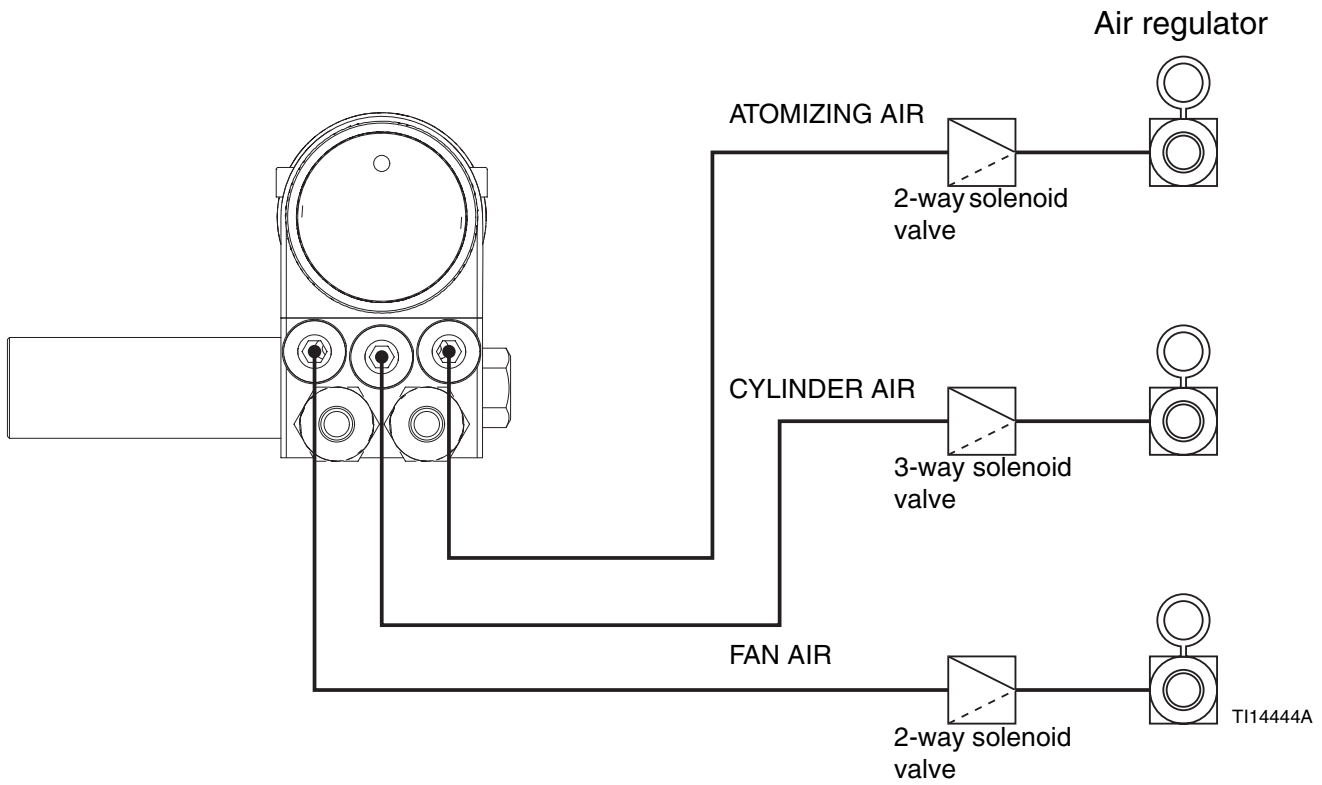
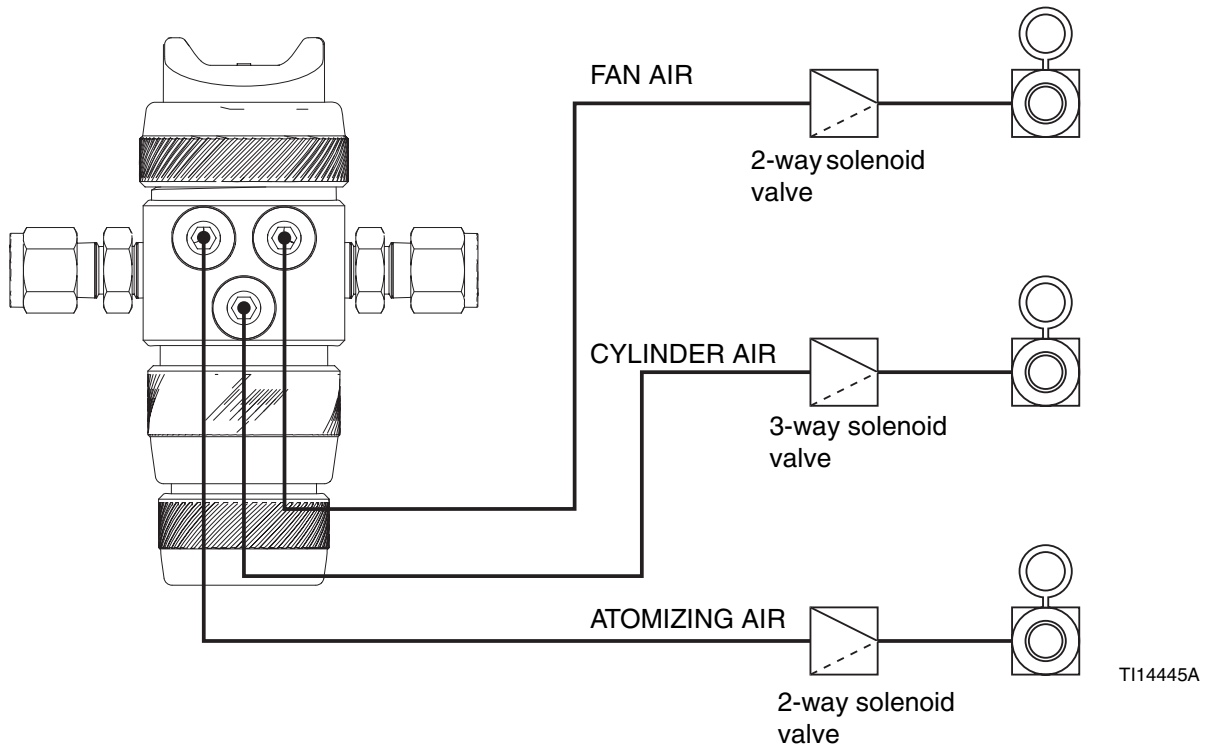

FIG. 6: Remote Air Regulation using Solenoid (Guns with Manifold)
FIG. 7: Remote Air Regulation using Solenoid (Guns without Manifold)
- You must install a separate air pressure regulator (F) on the CYL, FAN, and ATOM air lines to control air pressure to the gun. See FIG. 6 and FIG. 7.
- Install a bleed type air shutoff valve (E) on each gun air supply line, downstream of the gun air regulator, to shut off air to the gun.
1. The gun cylinder, fan, and atomization air must be supplied and regulated separately. To regulate air remotely, use solenoids (see FIG. 6 and FIG. 7).